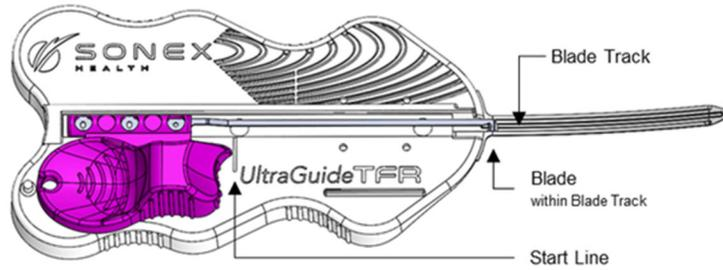

Figure 4: Advance the Blade to Desired Position on Introducer
3. Advance the Blade to the desired position on Introducer, distal to the A1 pulley. Visualize the Blade passing along the Blade Track and deep to the A1 pulley (Figure 4).